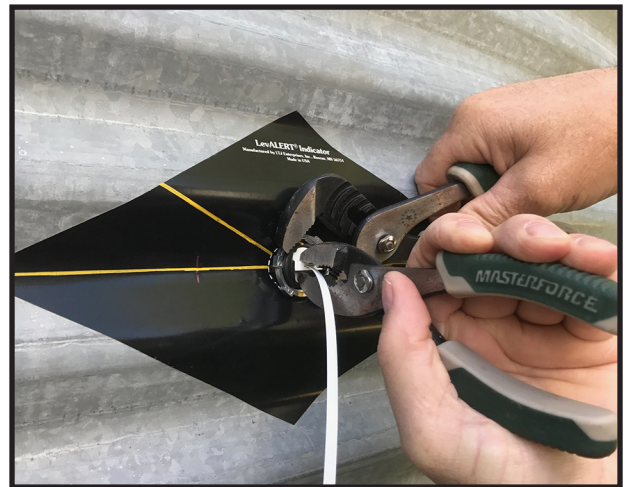

Figure 1j
- j. Tighten nut by holding center rib of installation plug with one plier and hold in a horizontal position. Use the channel lock plier to turn nut clockwise until tight. **See Figure 1j**